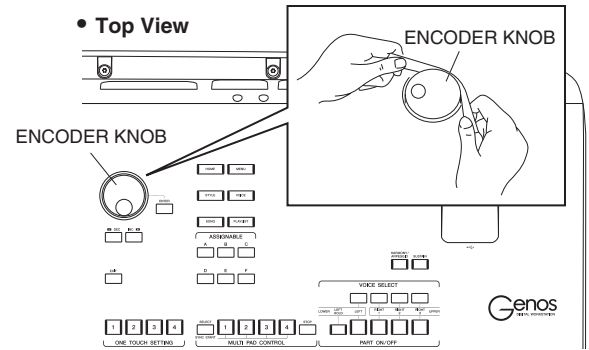

Fig. 7
- 15-1 Before disassembly, remove the encder knob. (Fig. 7)